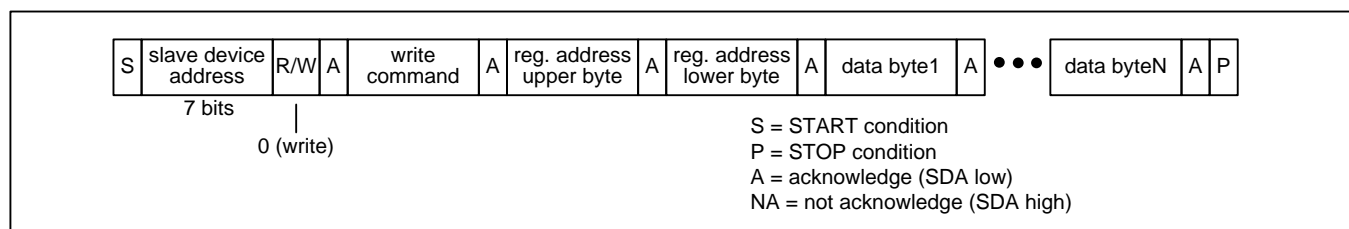

Figure 15 – I²C Register Write Transaction Functional Timing
Register Write Transactions. The device registers are accessible when EESSEL=0. The bus master does an I²C write to the device. The first three bytes of this transaction are the SPI Write command (see Table 4), the upper byte of the register address, and the lower byte of the register address. Subsequent bytes are data bytes to be written. After each data byte is received, the device writes the byte to the write address and then increments the write address. The bus master terminates the write with a STOP condition (P). See Figure 15.